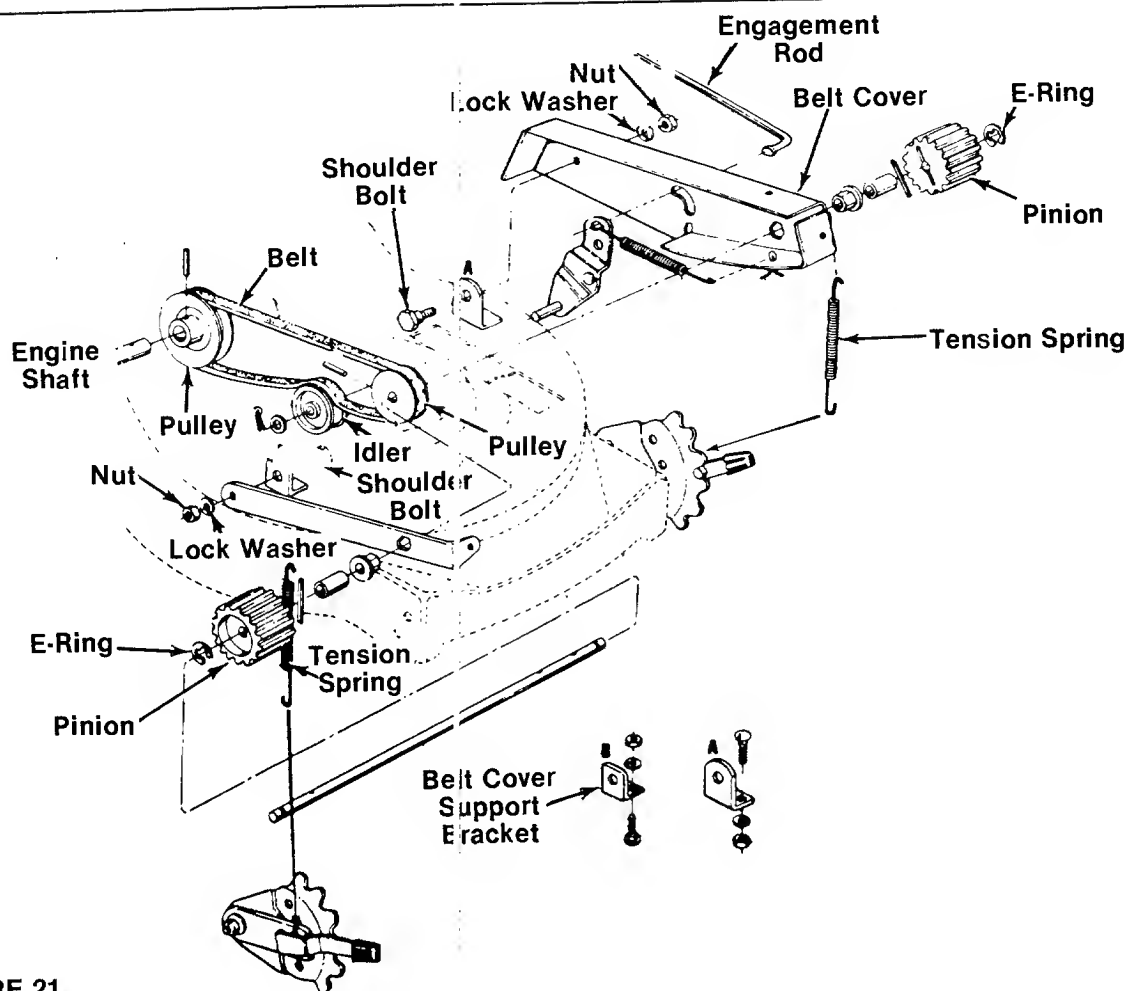

FIGURE 21.
BELT REPLACEMENT (See Figure 21)
2. Remove both tension springs. See figure 21.